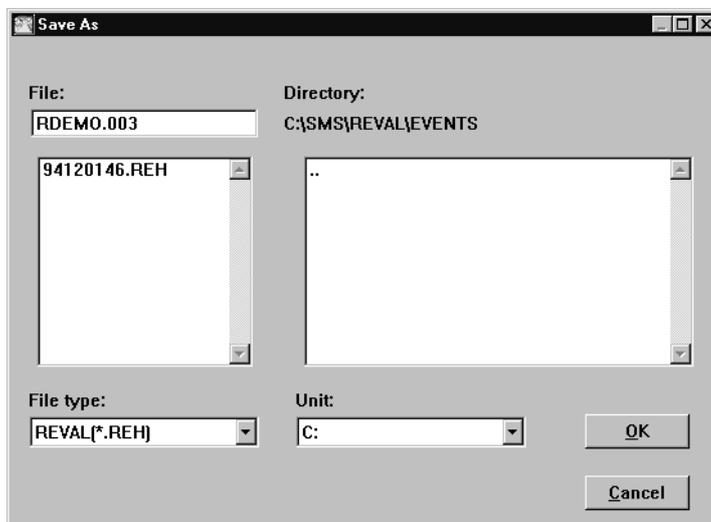

Fig. 13 The Save as... dialogue box.
- 2 A dialogue box is presented as in Fig. 13, where you can choose in what name and where to save the merged disturbance.
- 5 **After the disturbance window is opened, select File/Save As. The Save As dialogue box is opened, see Fig. 13.**